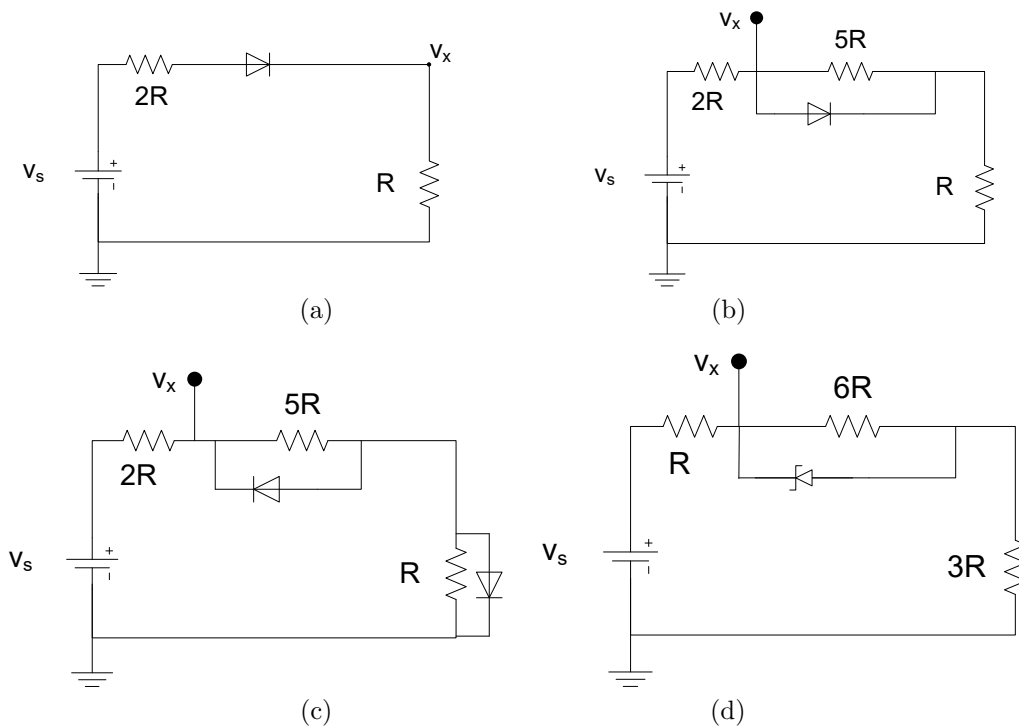

Figure 1.1: Simple diode circuits
Assuming the built-in voltage of diode is  $V_\gamma$  and the breakdown voltage of a Zener diode is  $V_Z$  in Fig. 1.1, find the relationship between  $V_x$  and  $V_s$  for each circuit theoretically.
Construct the circuits in Fig. 1.1 on a breadboard. For Fig. 1.1(a)~(c),  $R=1000\Omega$  and the type of diode is 1N4148. For Fig. 1.1(d),  $R=50\Omega$  and the type of diode is 1N4728A.
1. For Fig. 1.1(a), measure  $V_x$  when  $V_s$  varies from -1~2 V in a step of 0.2 V, design your own table and record all measured data
2. For Fig. 1.1(b), measure  $V_x$  when  $V_s$  varies from -1~2 V in a step of 0.2 V, design your own table and record all measured data
3. For Fig. 1.1(c), measure  $V_x$  when  $V_s$  varies from -4~7 V in a step of 0.5 V, design your own table and record all measured data
4. For Fig. 1.1(d), measure  $V_x$  when  $V_s$  varies from -4~7 V in a step of 0.5 V, design your own table and record all measured data